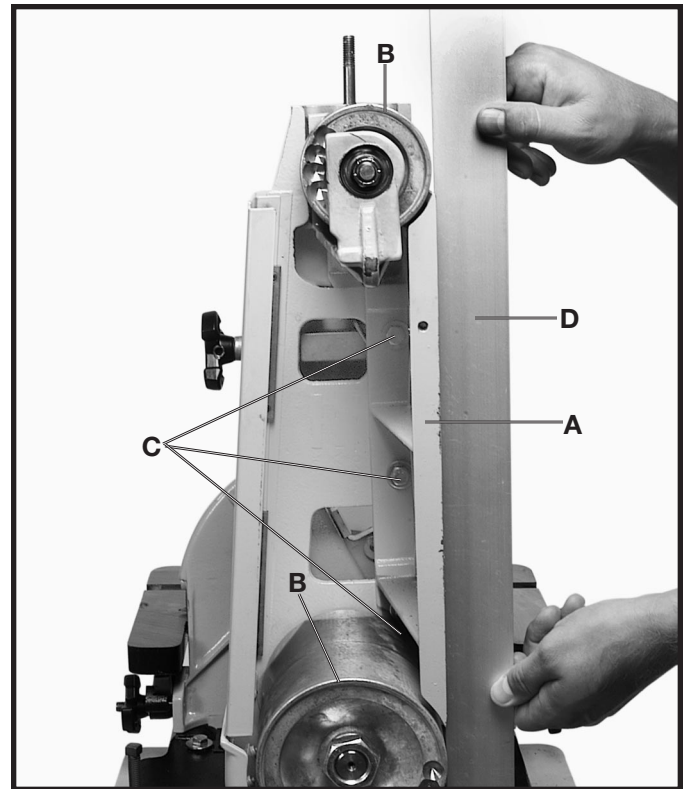

Fig. 26
2. Remove the three screws (C) Fig. 26, that attach the platen to the machine and remove the platen.
3. When replacing the platen, attach it to the machine with the three screws (C) Fig. 26. Do not tighten the three screws.
4. Using a straight edge (D) adjust the platen (A) Fig. 26, so it is  $1/32$ " higher than the crown of the drums (B), and tighten the three screws (C).